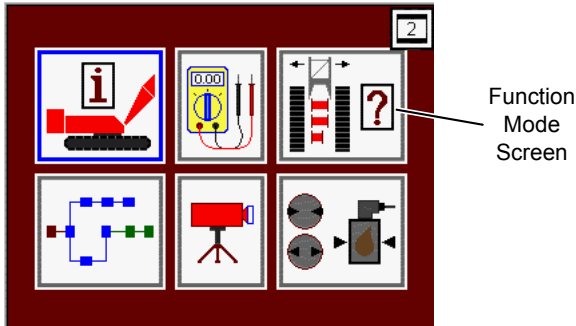

FIGURE 3-28
1. Enter the function mode in the main display (Figure 3-28).